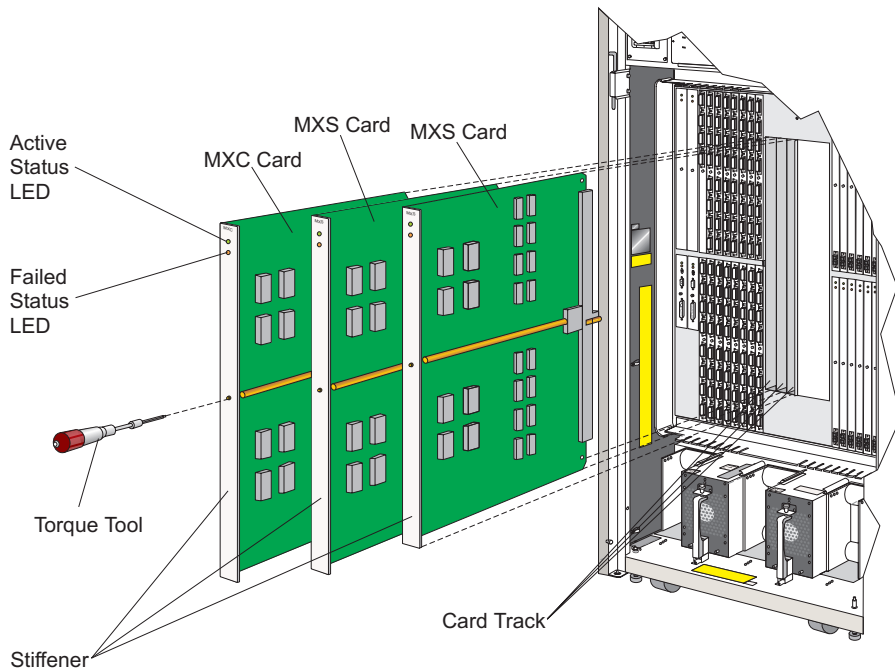

Figure 3-11. Matrix Controller (MXC) and Matrix Switch (MXS) Cards, Nonredundant
Use the following procedure to remove an MXC or MXS card from a **nonredundant** logic card unit. Refer to Figure 3-11.
Use the following procedure to replace an MXC or MXS card within a **nonredundant** logic card unit. Refer to Figure 3-11.
1. Holding the MXC or MXS card by the top and bottom of its stiffener, carefully insert it straight into its card track (refer to Figure 3-11). Note that the label identifying the MXC or MXS card should be at the top and the component side of the card should face to the right.